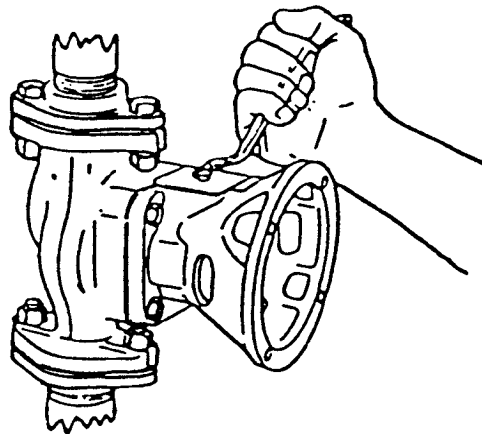

FIG 2. Removing bearing assembly
- 3 Remove bearing assembly from pump body by removing body cap screws (FIG. 2).